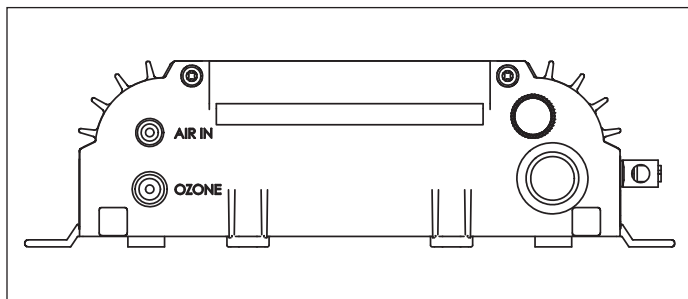

Figure 3 CoPilot Connections
5. The base of the CoPilot has two tube connections. Connect the longer end of the ozone supply tubing to the port marked "OZONE" (see Bottom View - Figure 3).
2. Gas Flow: Connect the Flowmeter provided to the "AIR IN" port on the base of the CoPilot (see Figure 3). Under worst-case system conditions the Flowmeter Ball should indicate at least a small amount of air flow. If not, adjust system valves as required to reduce back pressure and/or increase flow through the manifold. Under nominal conditions, the Ball should float above the middle of the flowmeter. It is ok if the Ball is all the way at the top if it is not stuck. Tap the Flowmeter to verify that the Ball is not stuck.